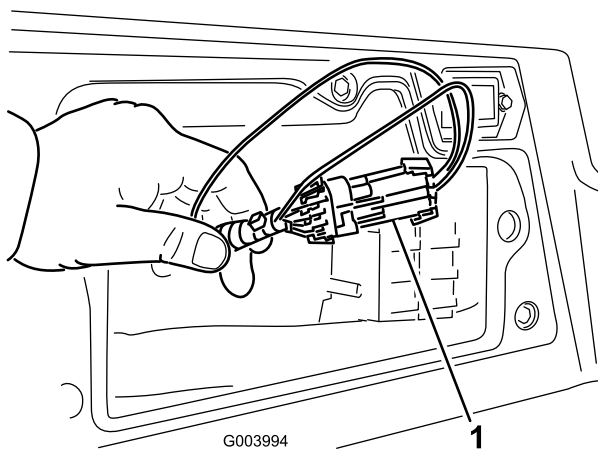

Figure 48
3. Locate the wire harness and connectors near the controller (Figure 48).